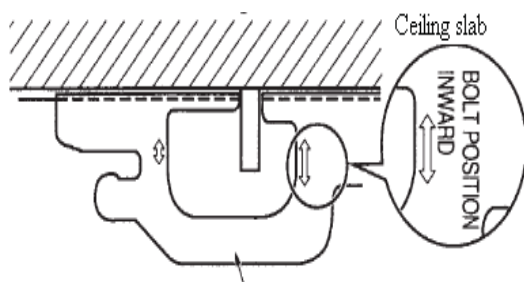

Figure 1-2-3 Hanger bracket
- ◆ Make sure that extended suspension bolt from the ceiling stays inside the arrowed position. Readjust the hanger bracket when it is outside the arrowed position. (Refer to Figure 1-2-3)